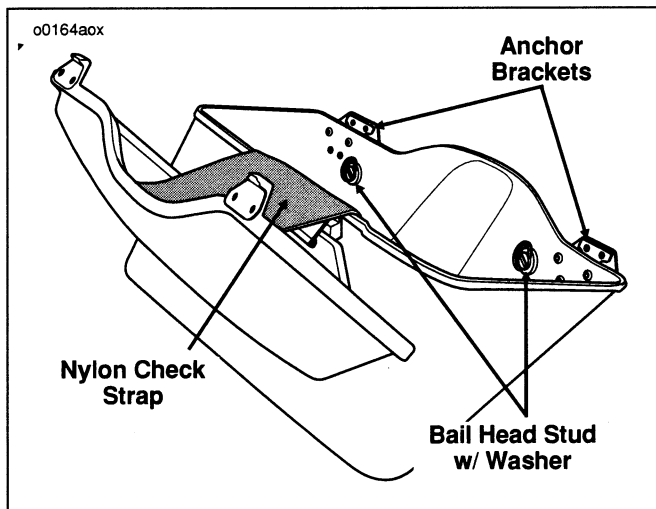

Figure 23. Bail Head Studs
6. See Figure 23. As you bring cover toward you, let it flip over, so the inside faces up. A nylon check strap suspends the lid in the open position.
1. See Figure 23. Unscrew saddlebag "Bail Head Studs" by turning 1/4 turn counterclockwise (CCW). **Save** the washers and studs.
1. See Figure 23. Carefully place saddlebag in position and align the anchor brackets on the saddlebag with the support bracket on the motorcycle.
3. Fasten "Bail Head Studs" and washer by pushing into front support bracket and rotate 1/4 turn clockwise (CW).